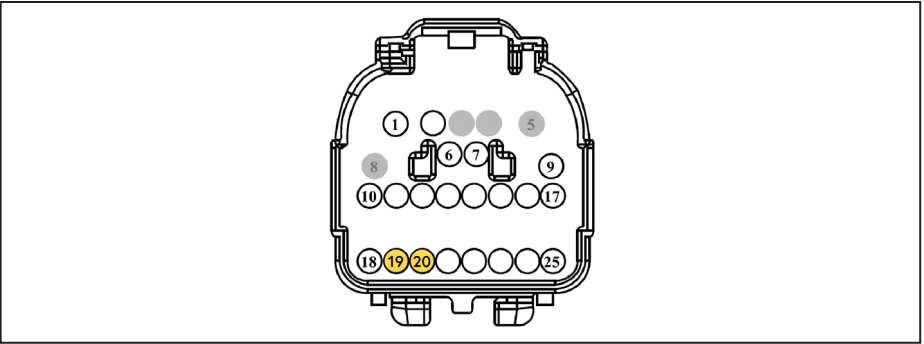

Figure 36 — C264 connector (male)
- Splice the blue wire running from the DTC to the wire at pin 19 (green wire with blue stripe at the time of writing) of the C264 connector (Figure 36).
- Splice the grey wire running from the DTC to the wire at pin 20 (white wire with green stripe at the time of writing) of the C264 connector (Figure 36).